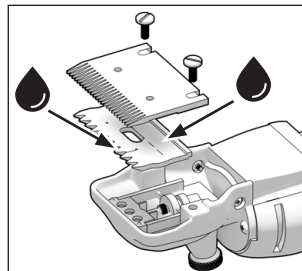

Fig. 4
7. Oil its cutting surfaces with the oil supplied (fig. 4).
8. Push the lower blade between the loosened fixing screws (7).